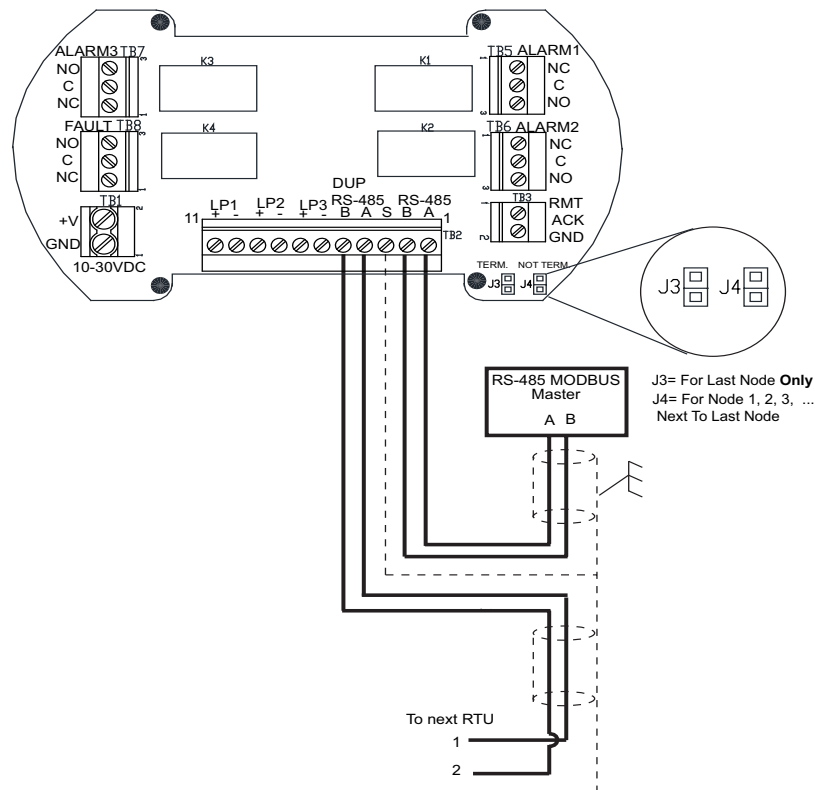

Figure 4-21: MODBUS Connections – Terminal/Relay/MODBUS RS-485 PC
6. Connect your MODBUS master input wire signals at TB2 Pin 1 (A) and TB2 Pin2 (B) on the terminal/relay/MODBUS RS-485 PCB.
7. Cable shielding must connect to TB2 Pin3 (S).
8. Route output wiring to next RTU from TB2 Pin4 (A) and TB2 Pin5 (B) (refer to Figure 4-21: MODBUS Connections – Terminal/Relay/MODBUS RS-485 PC).
12. Insert and tighten the four (4) standoffs.
13. Push the LCD PCB/CPU PCB set into the four (4) standoffs.